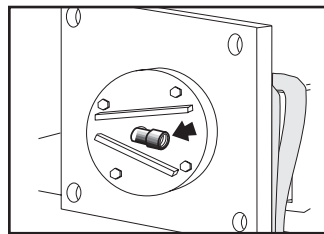

Figure 8
4. Locate the right-angle hydraulic fitting in the base of the column. (Figure 8) Remove the protective cap from the fitting.
11. Install the hydraulic fuse in the right angle fitting on the end of the column (Figure 8); tighten the fuse. Check later for leaks, and if necessary, tighten enough to prevent leaks when the system is under pressure.